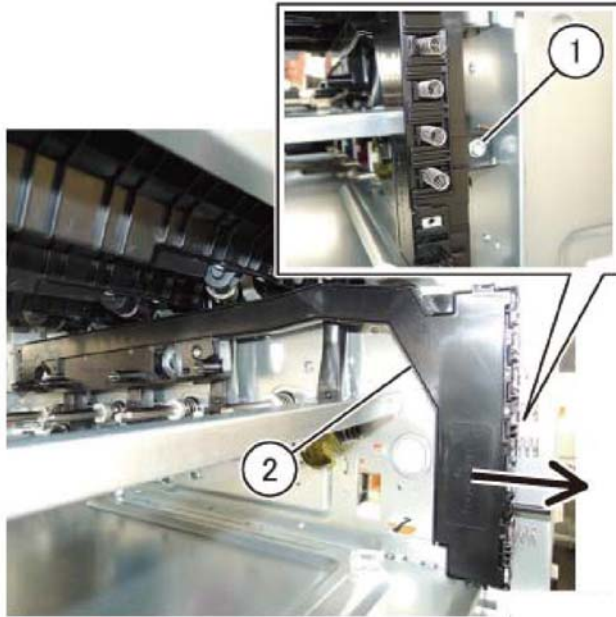

Figure 1 Conductor housing assembly removal
2. Remove the toner cartridge (K). PL 90.05 Item 13.
4. Remove developer unit (K), REP 90.1
11. Remove the conductor housing assembly, Figure 1.
- a. Remove the screw (1).
- b. Remove the conductor housing assembly (2) in the direction of the arrow.